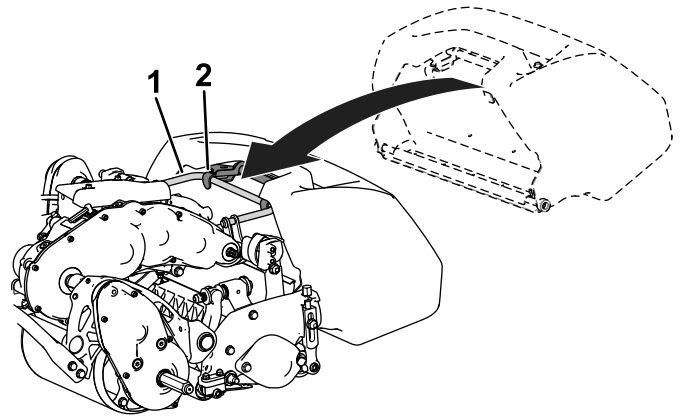

Figure 11
2. Guide the basket lip between the cutting unit side plates and over the front roller (Figure 11).
3. Install the basket hooks over the frame loop (Figure 11).